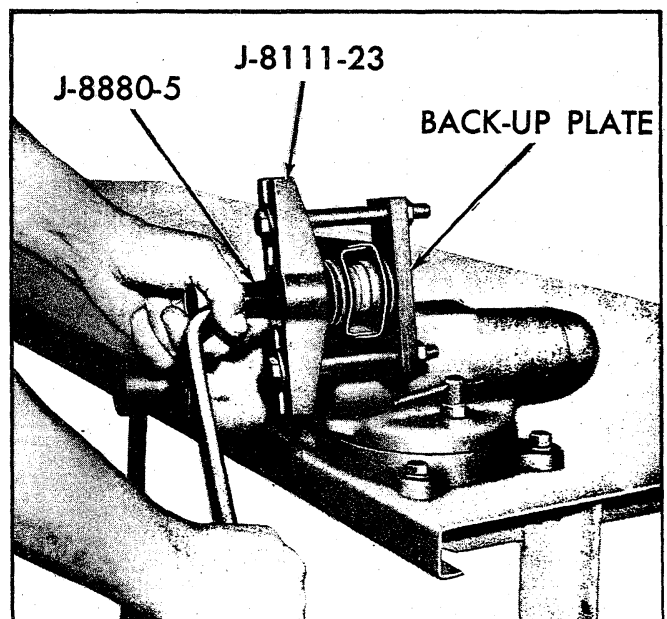

Fig. 68—Flaring Retainer (Corvette)
9. Lightly oil pointed end of J-8880-5 screw and thread into J-8111-23 until pointed end contacts bushing retainer. Continue threading J-8111-23 until retainer is flared (fig. 68).